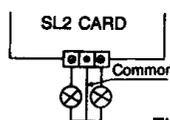

Fig. 3
- 3.C) This card has a three-poles terminal; central pole must be connected to the blue wire (common) of the two lamps; the other two pole terminals must be connected to the black wire of the lamps (see fig. 3).